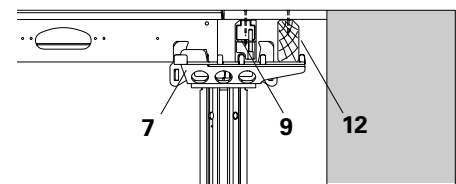

Fig. A5.04
- to the Combihead SCK (7) in a longitudinal direction. (Fig. A5.04)
- to the Combihead SCK. (Fig. A5.04)